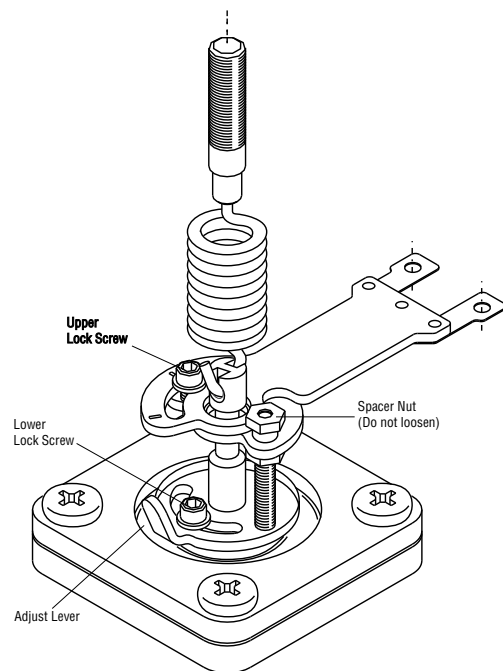

Figure 6: Gain Adjustment
3. Using a 5/64-inch allen wrench, *loosen both upper and lower lock screws* about one half turn. Do not loosen the spacer nut. (See Figure 6)